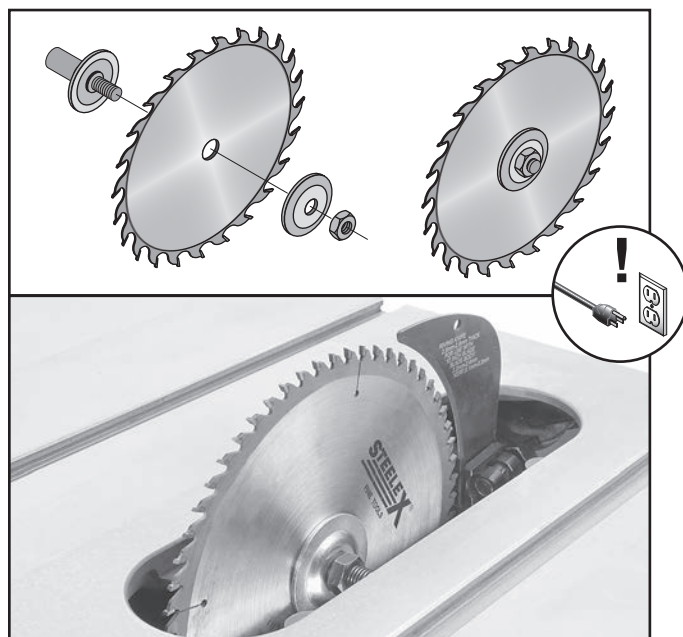

Figure 41. Blade order of installation and teeth facing the correct direction.
4. Install new blade and flange on arbor, as shown in **Figure 41**, with teeth facing toward front of saw. Securely tighten arbor nut.